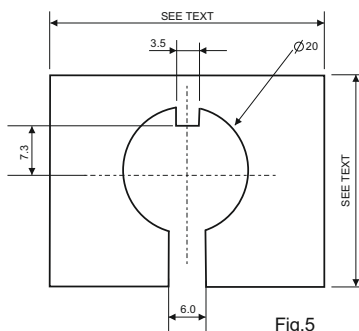

Fig.5
3. A polarising plate can be made in order to prevent rotation of the sensor - an example design is given on page 3 (Fig. 5).